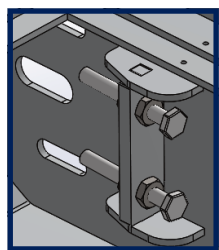
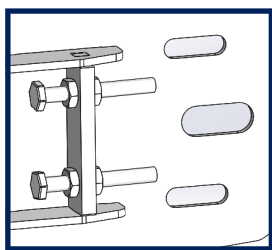

FIGURE 1A
FIGURE 1B
2. Screw in the tensioning screws and jam nuts. Refer to **Fig 1A** (interior) and **Fig 1B** (exterior). Do not tighten at this point. The tensioning is performed after the treads and outside plates are installed.